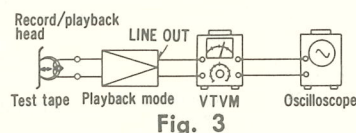

**Fig. 2**
**NOTE 1:** Tape speed can be adjusted through the small hole on the back-side of main case by the  $\ominus$  screw driver (Non metal type) as shown in fig. 2.